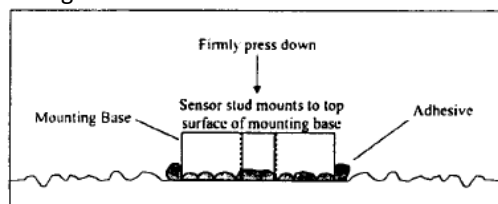

Figure 7. Mounting Base: Adhesive Installation
STEP 3: Place a small portion of adhesive on the underside of the mounting base. Firmly press down on the assembly to displace any extra adhesive remaining under the base. See Figure 7.